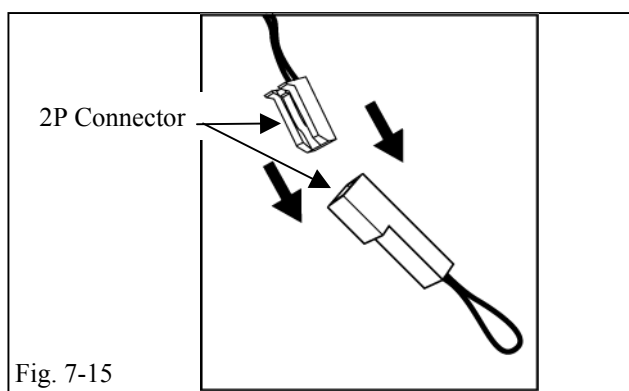

Fig. 7-15
- (p) Disconnect the RES harness' white 2P connector.(Fig. 7-15)